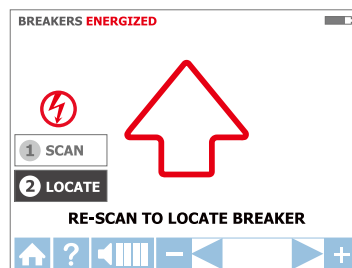

Figure 3.3d: LOCATE mode – Searching for correct breakers/fuses
Step 2 - ② LOCATE
1. Select LOCATE mode by using the directional arrows and pressing the yellow ENTER button (Figure 3.3d).